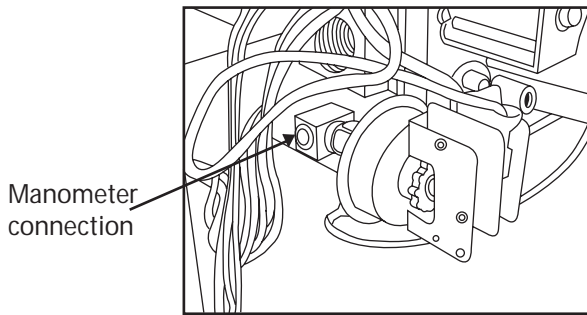

Fig. 29 - LGPS Installed
5. Apply pipe dope sparingly to male end of brass tee. Install propane low gas pressure switch (provided in kit) on male end of the female x female x male tee. Tighten switch finger tight. Use a small open-end wrench on base of pressure switch for final tightening. (See Fig. 29.)
6. Connect a manometer to the open end of the tee installed in the gas valve. (See Fig. 29.)
1. Verify manometer is connected to the brass tee connected to the inlet pressure tap on gas valve. (See Fig. 29.)
3. Attach manometer to manifold pressure tap on gas valve. (See Fig. 29.)